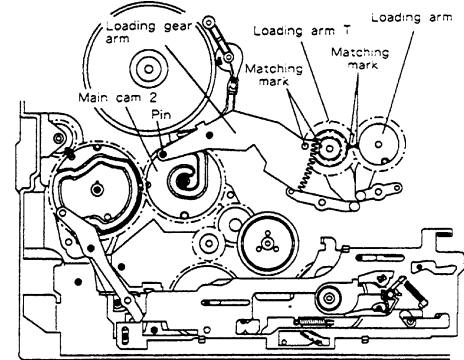

Fig. 2-17-2
- E. Remove the grip ring and remove the loading gear arm. (Refer to Fig. 2-17-2.)
- F. Turn the loading arm S and T to the loading position. (Refer to Fig. 2-17-2.)
- C. Install the loading arm T so that the matching mark of the loading arm S is aligned with the matching mark of the loading arm T as illustrated in Fig. 2-17-2.